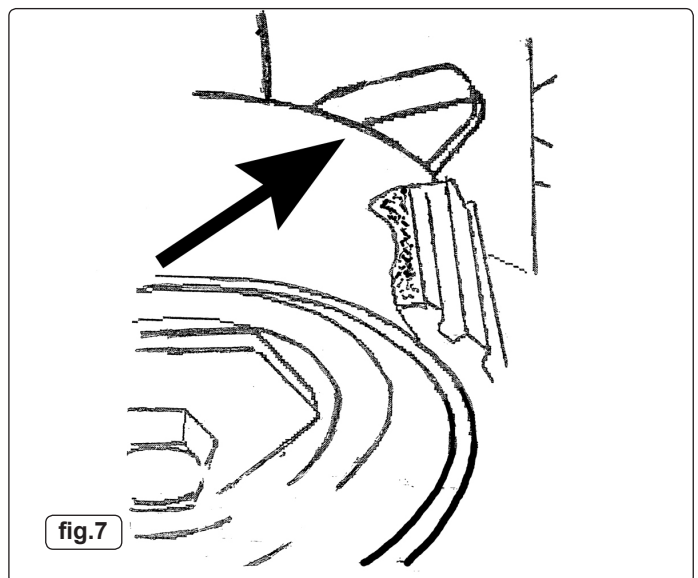

fig.7
- 3.3.3. To tension the timing belt, fit VS4435 Belt Tensioner Adjuster and carefully and slowly turn the tensioner clockwise until the **right-hand edge** of the moveable pointer aligns with the **right-hand edge** of the marker (**fig.7**).